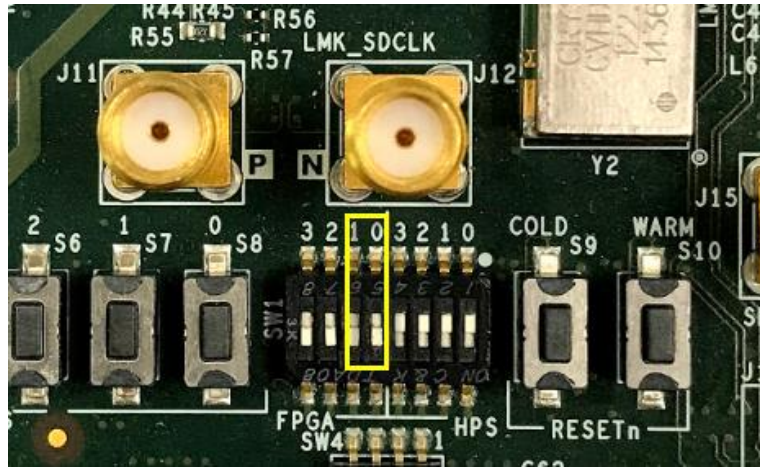

Figure 4-8 SWITCH[1:0] on A5SoC
8. Set SW[1:0] to 00 as shown in **Figure 4-8**.